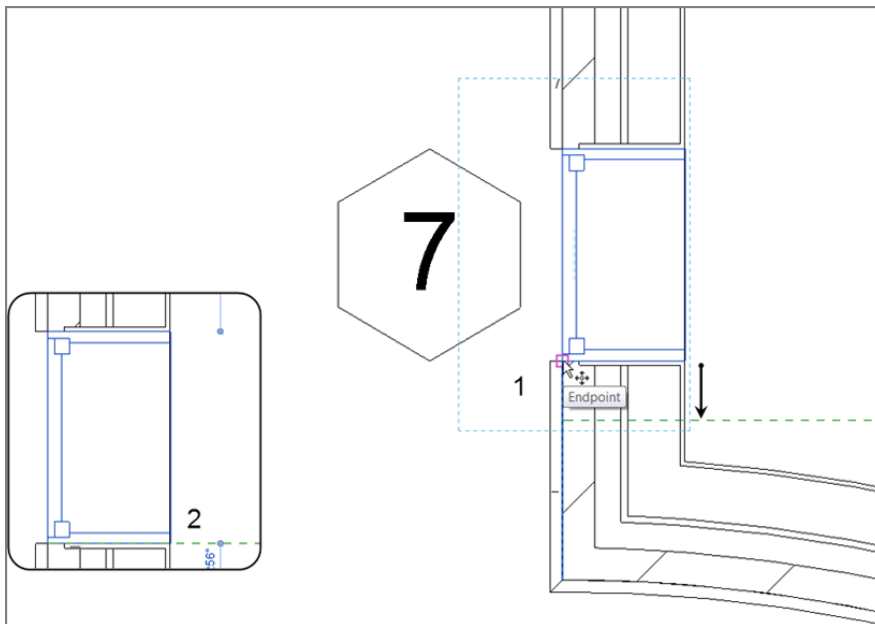

FIGURE 4.20: Moving the window into position
7. Move the window from the bottom, outside corner down to the reference plane, as shown in Figure 4.20.